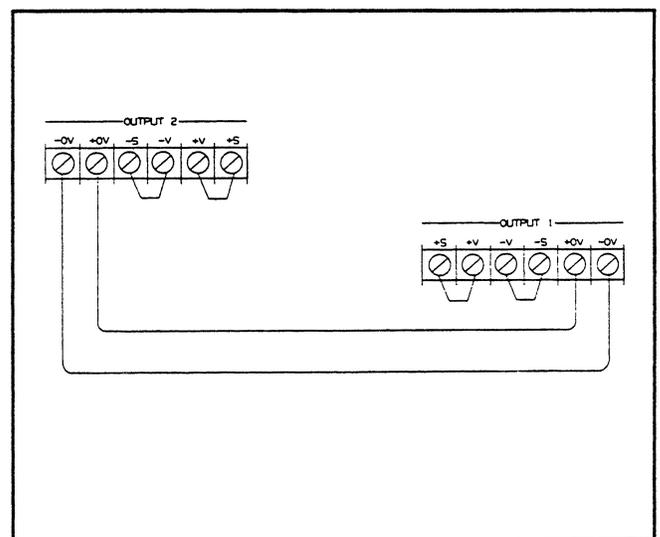

Figure 3-12. OV External Trip Test Connections
- a. Turn off the supply and connect the OV terminals of all outputs in parallel noting proper polarity. Figure 3-12 shows two outputs connected in parallel.